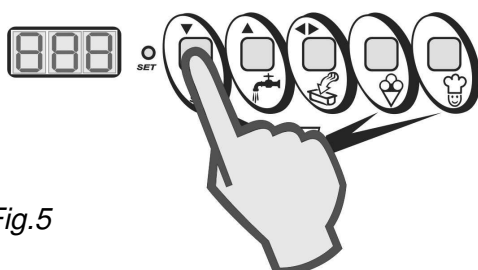

Fig. 5
8. To exit programming and save the changes press the **"STOP"** key (Fig. 5).